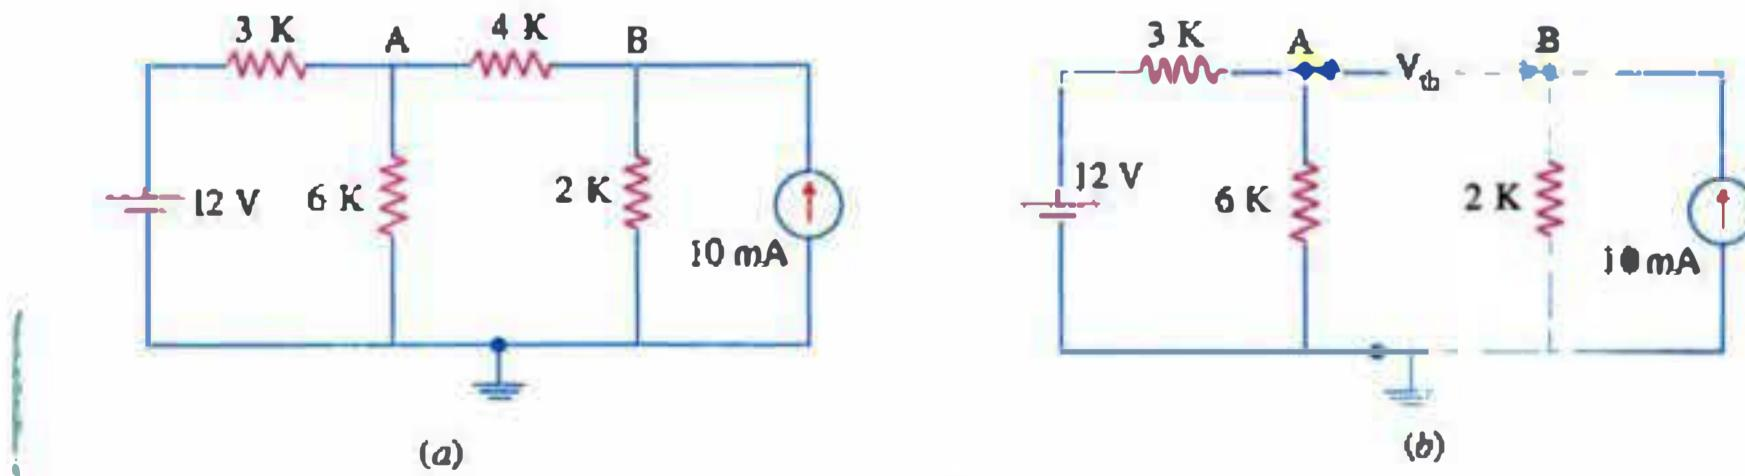

Fig. 4.12
**Example 4.4.** Using Thevenin's theorem, calculate the current through the  $4\text{ K}$  resistor of Fig. 4.12 (a).
**Solution.** If we remove  $4\text{ K}$  resistor, circuit becomes as shown in Fig. 4.12 (b). As seen, full current of  $10\text{ mA}$  passes through  $2\text{ K}$  resistor producing a drop of  $10 \times 2 = 20\text{ V}$ . Hence,  $V_B = 20\text{ V}$  w.r.t. ground. Now,  $12\text{ V}$  battery is connected in series with two resistors  $3\text{ K}$  and  $6\text{ K}$  which form a voltage divider circuit.